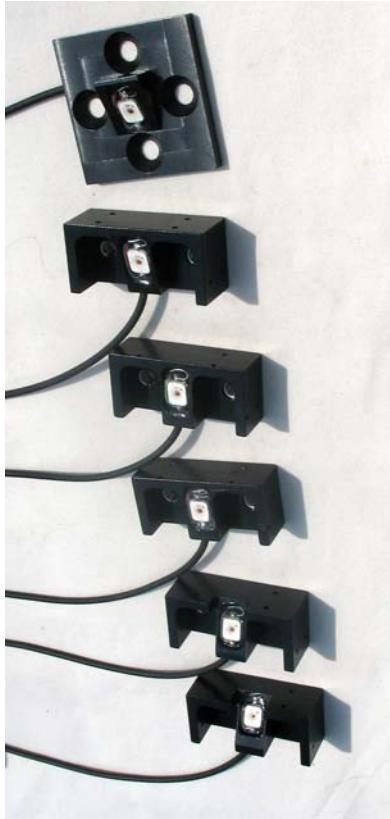

Figure 2. RibEye LEDs
- Six light-emitting diodes (LEDs), mounted on the ribs. The LEDs (Figure 2) are designed to be mounted in the order shown in the photo; that is, the top LED goes on the top rib, etc.
The LEDs mount to the center of the inside of the ribs using four screws for the top (shoulder) rib and two screws for each of the remaining ribs. Referring back to Figure 2, the LEDs are shown in the order that they are mounted, with the top LED in the picture attaching to the top rib. Note that the LEDs for ribs 1, 2, 5, and 6 are angled so that they will be aimed toward the sensor heads, providing the maximum amount of light to the sensors. **DANGER:** *The LEDs are very bright when driven at full power. Do not look directly at the LEDs during full power operation.*